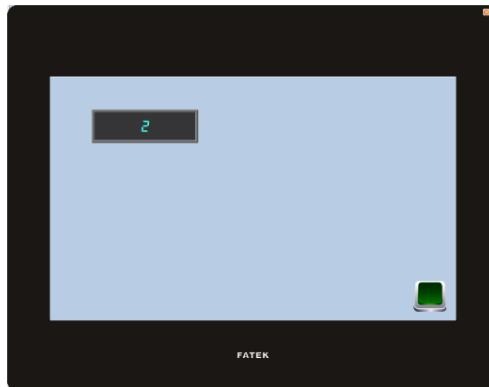

Figure 402 Offline Simulation
**Offline Simulation** is as shown in Figure 402. A simulator will open on the PC and create a virtual PLC that is connected to the HMI in the memory of the PC. Therefore, no communication errors will be generated during the simulated connection. The simulated connection is used to verify the accuracy of the screen and logic.